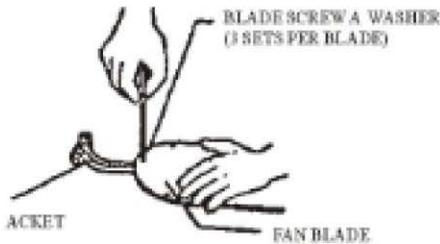
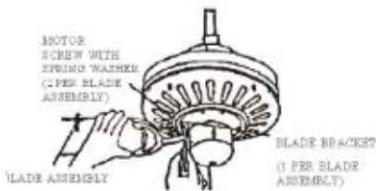

Fig. 6
Fig. 7
2. Mount the blade brackets to the fan blades using the blade screws and washers provided. See Fig.6. Make sure all screws are tightened securely. See Fig.7.